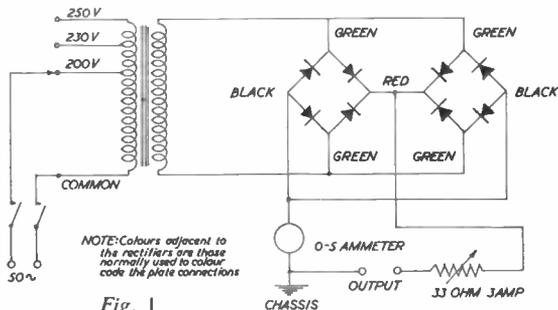

Fig. 1
**A** CIRCUIT diagram for a suitable transformer-rectifier unit forming the power supply for electro-plating, and adjustable for the range of voltages and current densities likely to be encountered with the different electrolytes employed, is given in Fig. 1. The basic components and materials required are: